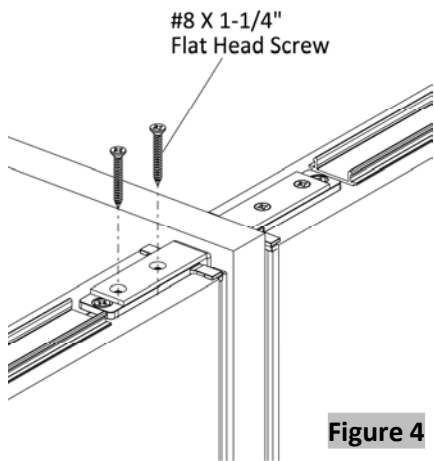

Figure 4
- Follow **Steps 5** and **6** to install the other standard panel, (Figures 4 and 5).